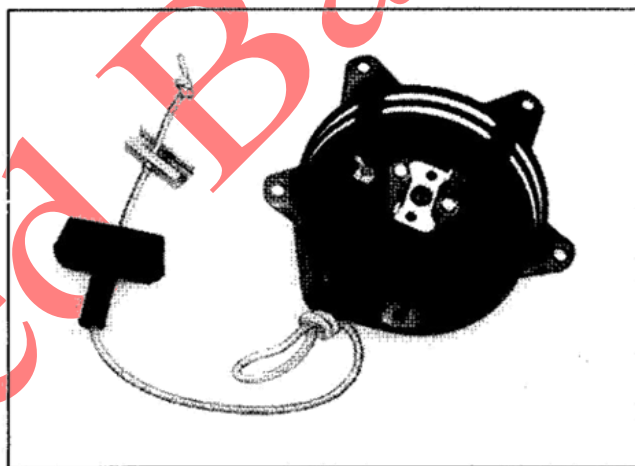

**Figure 7-4. Starter Pawls.**
2. Carefully note position of the pawls, pawl springs, and retaining rings before disassembly. (Components must be assembled correctly for proper operation.) Refer to Figure 7-4.